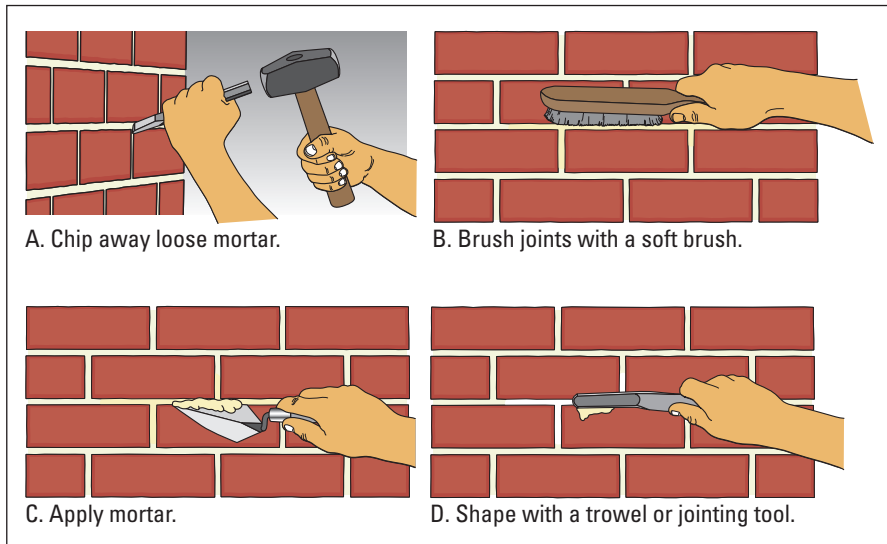

Figure 4-4:
- 1. Rake out the old pointing as gently as you can, trying to avoid damaging the edges of the bricks.** The usual hand-tool is a *plugging chisel* (shown in Figure 4-3) but this has to be used with care, as it can easily become jammed between two bricks, splintering them. If the brickwork has already been repointed with hard sand-and-cement mortar, the danger of damage is even greater. In this case, the best course of action is often to first use a 100 mm bolster chisel to break the bond between the pointing and the bricks, before using the plugging chisel to prise out the pointing in short lengths. Rake out the joints to a depth at least equal to their width (10 mm) in the mortar, and brush out any loose material and dust. See Figure 4-4.